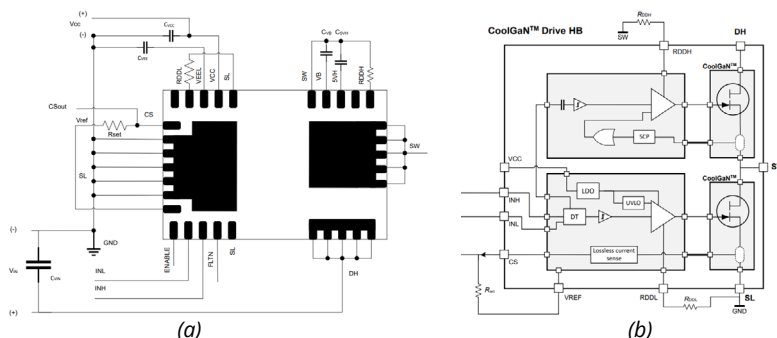

Figure 1: Integrated GaN HB device in QFN 6×8 package. (a) Application schematic. (b) Simplified diagram.
Figure 1 (a) illustrates CoolGaN™ Drive HB 650 V G5, an integrated GaN device in half-bridge (HB) configuration, in a small QFN 6×8 package, and how it is typically configured in a circuit. This device requires only a few external components for operation, enabling a compact design. As seen in Figure 1 (b), this device integrates two 650 V GaN transistors with dedicated gate drivers and a lossless current sensing circuit. Moreover, several protection features, including overcurrent protection (OCP), short-circuit protection (SCP), overtemperature protection (OTP), and undervoltage lockout (UVLO) protection, are integrated into the device. Additionally, the voltage slew rate at both turn-on and turn-off transitions for low- and high-side GaN transistors is adjustable via the external resistors RDD1 and RDDH, respectively. This feature is critical to achieve the desired EMC levels.